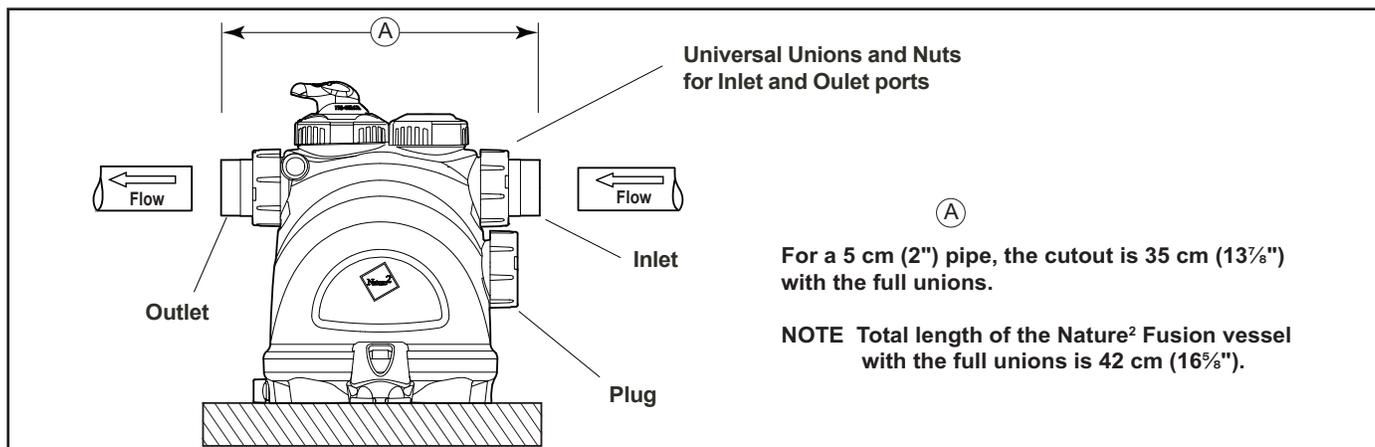

Figure 4. Pipe Cutout
3. Cut out a 35 cm (13⁷/₈") section of the 5 cm (or 2") pipe to insert the vessel (see Figure 4).